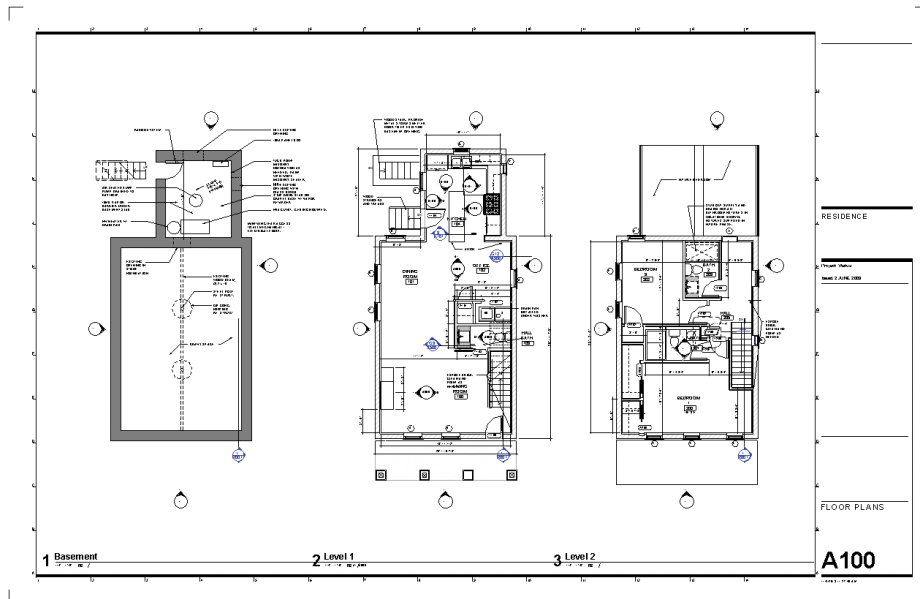

FIGURE 12.18 All three plan views on a sheet
5. Add the Level 2 floor plan view to Sheet A100 next using the same alignment guide. After all three views are placed on the sheet, use the arrow keys to nudge them left or right, so they are more or less evenly spaced on the sheet, as in Figure 12.18.